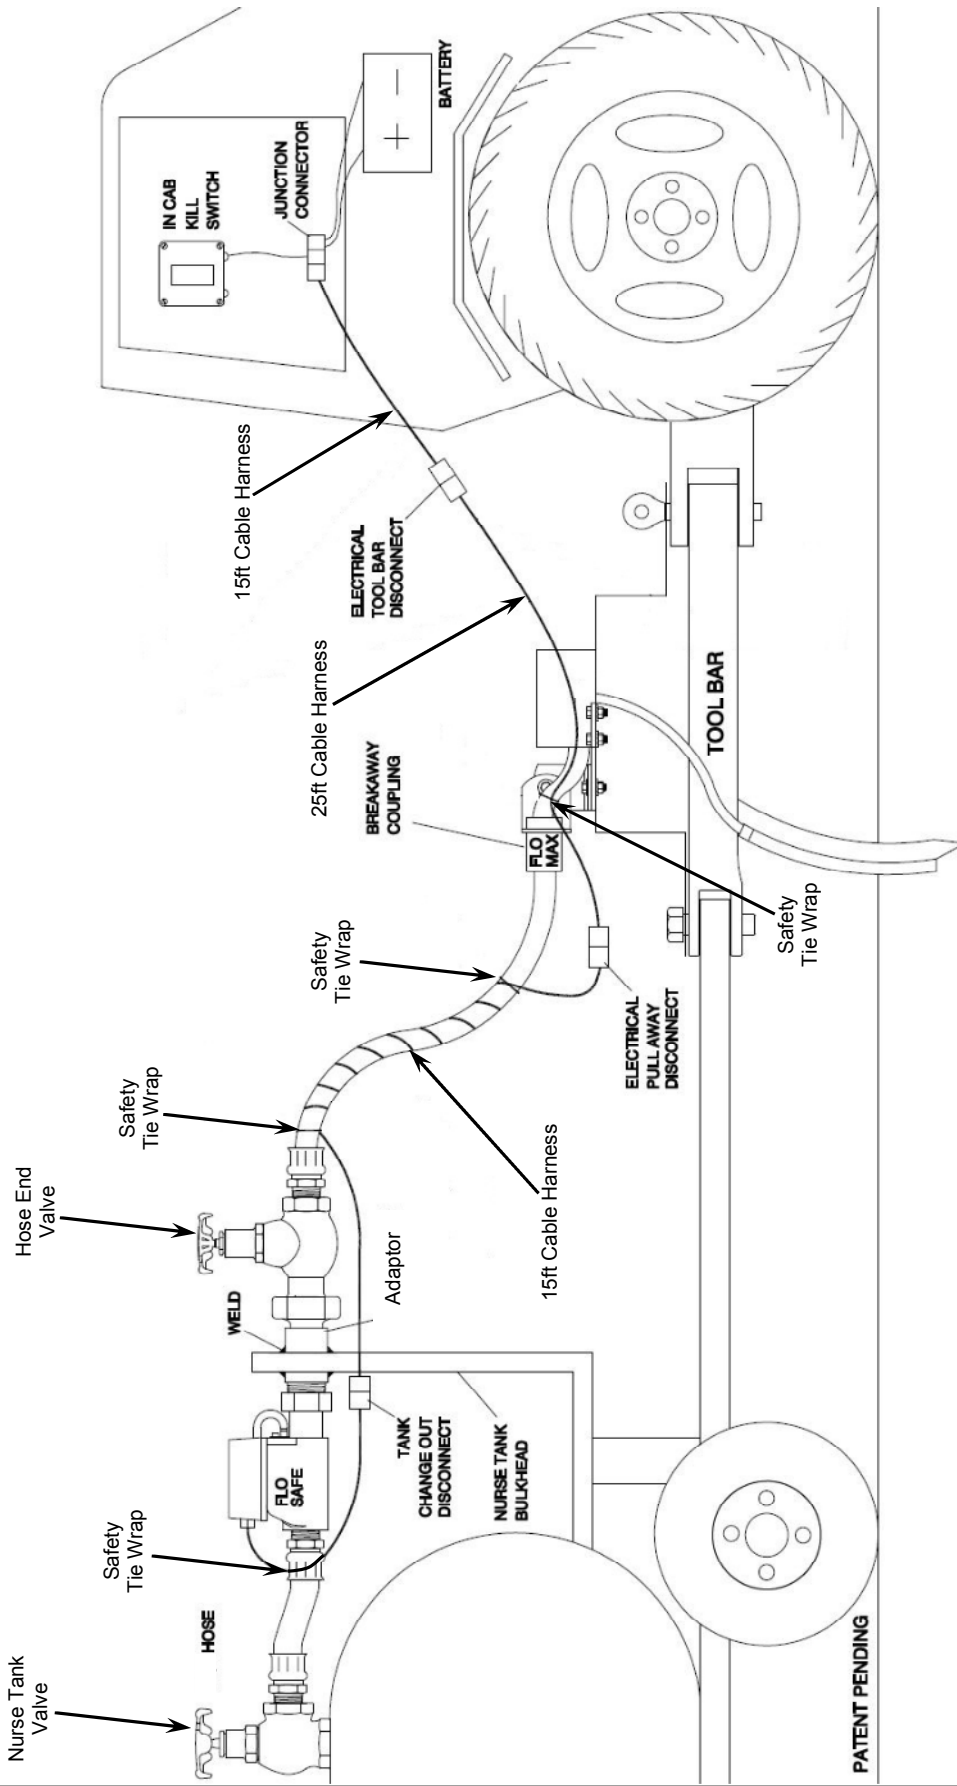

FIGURE 4
9. See Figure 4 on next page for Typical Installation.